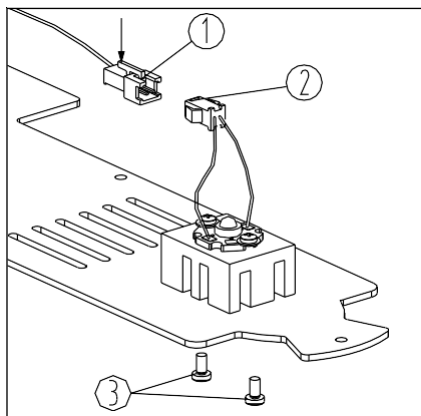

Fig.5
Unscrew the lock screw at the bottom assembly and lift the assembly away from microscope housing. Press the small locking handle on the connector socket to release the socket connection (1) (See arrow on fig. 5). Pull out the connector (2) Then screw out the two screws (3) that fixed the LED, replace with a new LED. Fix the LED by the two screws, plug the connector (2) into connector socket (1), assemble the bottom assembly to original place in microscope housing.